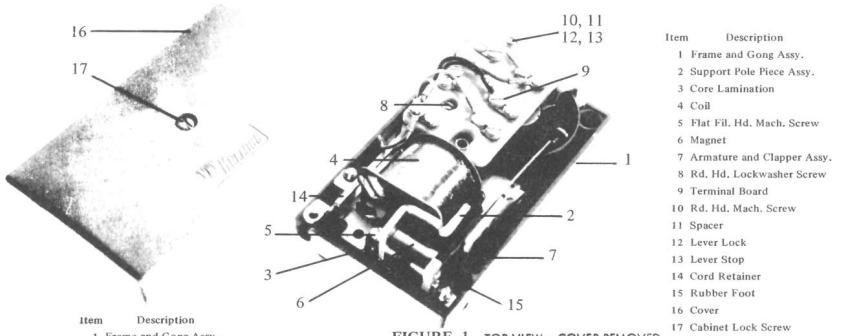

FIGURE 1 TOP VIEW - COVER REMOVED
1.02 The 136 compact ringer is a double wound coil, single gong, straight line, biased type of unit equipped with a mechanical volume control and assembled on a die-cast metal base with a molded plastic cover. (See Figure 1) The 138 ringer is identical except for the addition of a gas tube and the use of a large cover. In combination with the type 137 frequency selective ringer these units provide a complete range which meet the requirements of every need for a compact telephone line main or extension ringer. Screw terminals are provided for all lead connections. (See Figure 3) The base casting is fitted with four shock absorbing rubber feet through which the mounting screws are inserted.